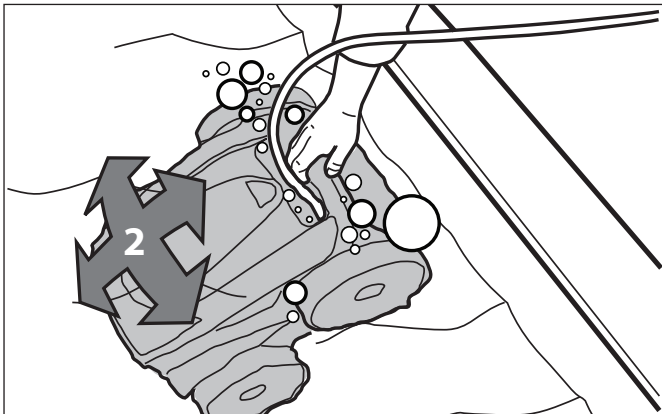

Figure 14. Cleaner on the Bottom of the Pool
2. Ensure the unit sinks to the bottom of the pool. Refer to Figure 14.